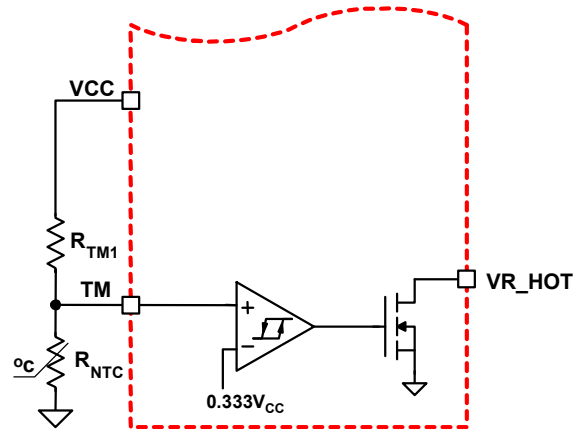
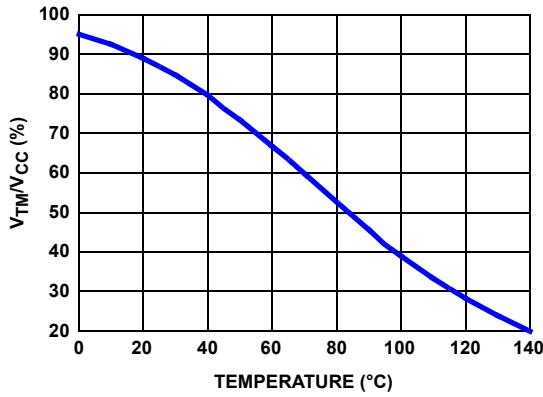

FIGURE 12. BLOCK DIAGRAM OF THERMAL MONITORING FUNCTION
FIGURE 13. THE RATIO OF TM VOLTAGE TO NTC TEMPERATURE WITH RECOMMENDED PARTS
The diagram of thermal monitoring function block is shown in Figure 12. One NTC resistor should be placed close to the power stage of the voltage regulator to sense the operational temperature, and one pull-up resistor is needed to form the voltage divider for the TM pin. As the temperature of the power stage increases, the resistance of the NTC will reduce, resulting in the reduced voltage at the TM pin. Figure 13 shows the TM voltage over the temperature for a typical design with a recommended 6.8k Ω NTC (P/N: NTHS0805N02N6801 from Vishay) and 1k Ω resistor RTM1.
Based on VCC voltage, ISL6334B, ISL6334C converts the TM pin voltage to a 6-bit TM digital signal for temperature compensation. With the non-linear A/D converter of ISL6334B, ISL6334C, the TM digital signal is linearly proportional to the NTC temperature. For accurate temperature compensation, the ratio of the TM voltage to the NTC temperature of the practical design should be similar to that in Figure 13.
1. Properly choose the voltage divider for the TM pin to match the TM voltage vs temperature curve with the recommended curve in Figure 13.